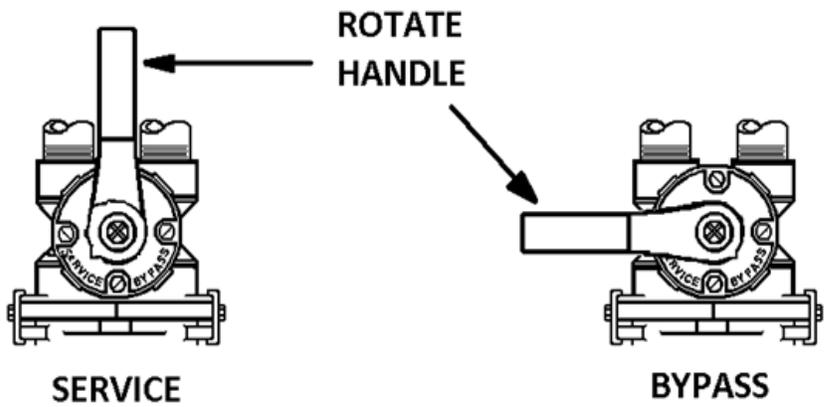

FIGURE 3: Bypass Valve
The bypass valve should be in the "Bypass" position (See figure 3, page 5). Open main supply valve or turn on power to pump on private well systems. Check for leaks and correct as needed.
STEP 11: Open bypass valve $\frac{1}{4}$ of the way allowing unit to pressurize slowly. It is normal for air to be trapped in the top part of the aeration tank. Once tanks are pressurized, fully open bypass valve to the “Service” position (See figure 3, page 5).